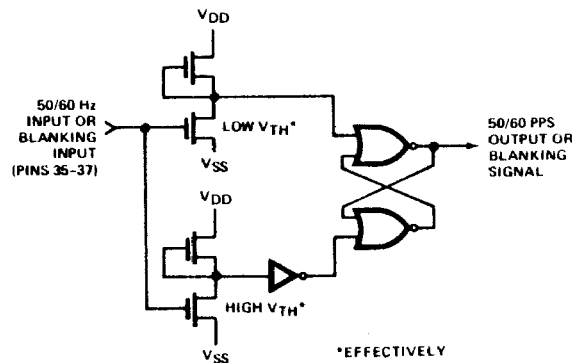

Figure 1. 50/60 Hz or Blanking Input Shaping Circuits
**Note 1:** Standard MOS input with leakage current of  $1\mu A$  max. at  $V_{IN} = -30$  volts, all other pins at GND, and  $T_A = +25^{\circ}C$ . Input also contains Schmitt trigger circuit to provide hysteresis. (See Figure 1.)
**50 or 60 Hz Input (pin 35):** A shaping circuit is provided to square the 50 or 60 Hz input (see Figure 1). This circuit allows use of a filtered sinewave input. The circuit is a Schmitt trigger that is designed to provide about 6V of hysteresis. A simple RC filter should be used to remove possible line-voltage transients that could either cause the clock to gain time or damage the device. The input should swing between VSS and VDD. The shaper output drives a counter chain which performs the timekeeping function.
**Blanking Control Input (pin 37):** Connecting this Schmitt trigger input to VDD places all display drivers in a non-conducting, high-impedance state, thereby inhibiting the display. (See Figure 1.) Conversely, VSS applied to this input enables the display.